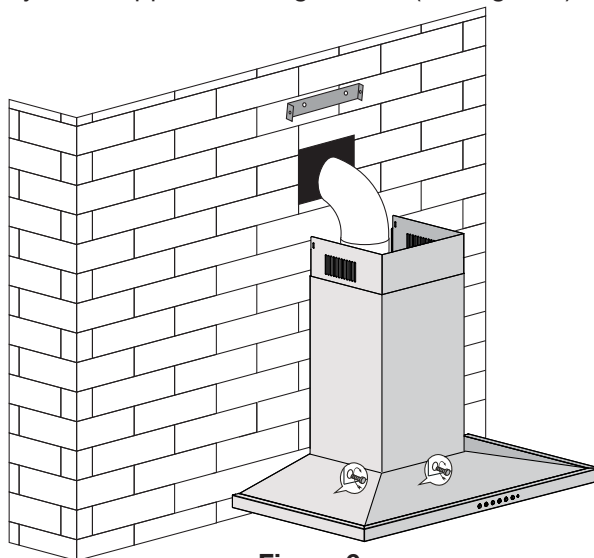

Figure 6
- Connect expansion pipe to outside (see Figure 6).
- Fix the body with safety screws, using pre-drilled holes (6 mm/0.2 in.) located on the back housing (see Figure 6).